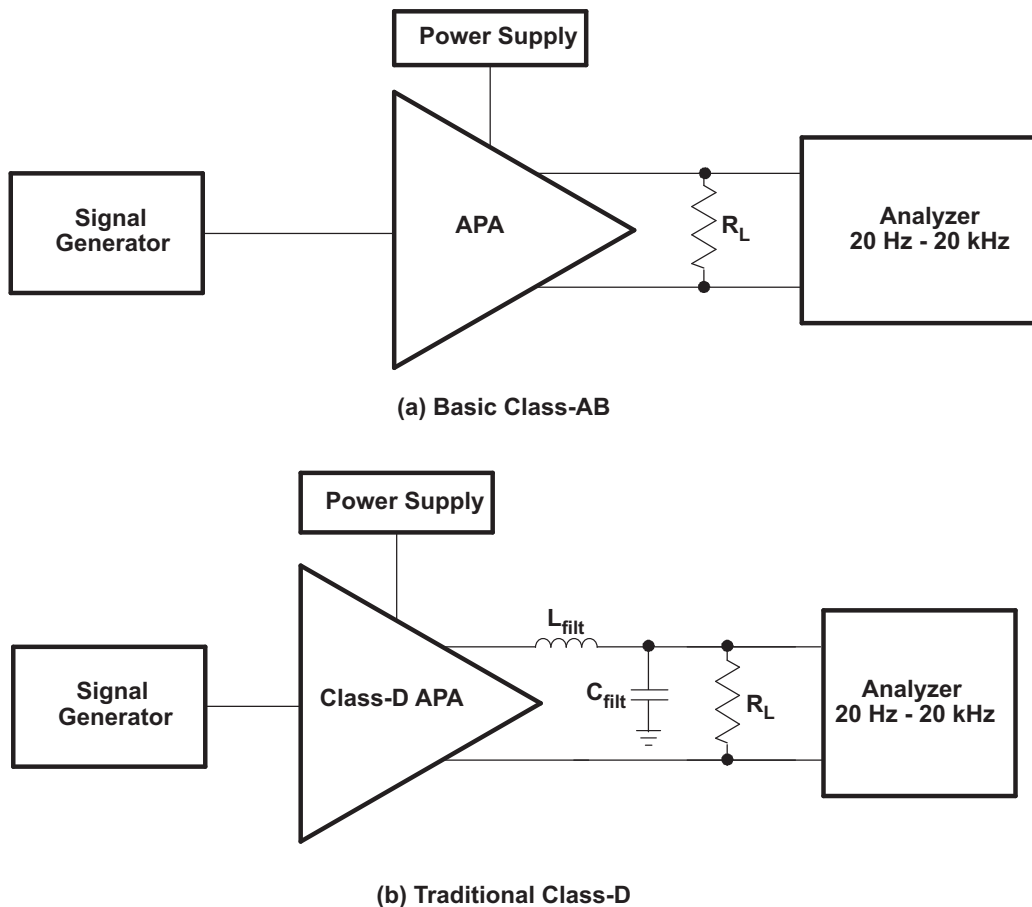

Figure 31. Audio Measurement Systems
**Figure 31** shows the block diagrams of basic measurement systems for class-AB and class-D amplifiers. A sine wave is normally used as the input signal because it consists of the fundamental frequency only (no other harmonics are present). An analyzer is then connected to the audio power amplifier (APA) output to measure the voltage output. The analyzer must be capable of measuring the entire audio bandwidth. A regulated dc power supply is used to reduce the noise and distortion injected into the APA through the power pins. A System Two™ audio measurement system (AP-II) by Audio Precision™ includes the signal generator and analyzer in one package.
Figure 31(a) shows a class-AB amplifier system. It takes an analog signal input and produces an analog signal output. This amplifier circuit can be directly connected to the AP-II or other analyzer input.
This is not true of the class-D amplifier system shown in Figure 31(b), which requires low-pass filters in most cases in order to measure the audio output waveforms. This is because it takes an analog input signal and converts it into a pulse-width modulated (PWM) output signal that is not accurately processed by some analyzers.